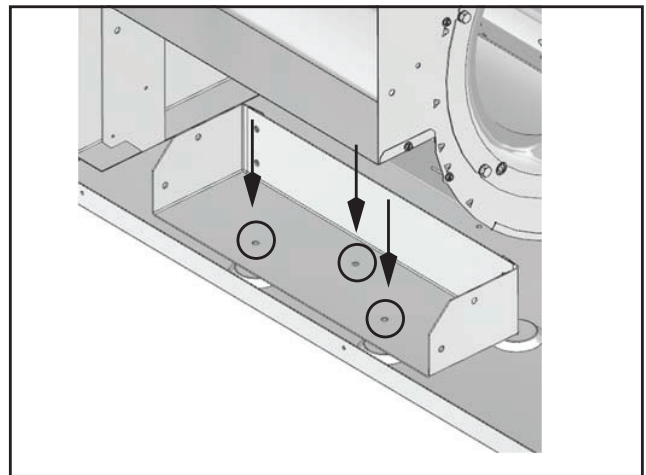

Fig. 38 - Reinstall Bracket Removed in Step 3
12. Reinstall bracket removed in step 3 using (3) screws in the same location. See Fig. 38.